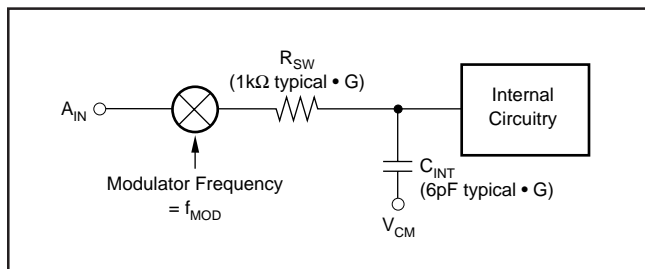

FIGURE 1. Analog Input Structure.
Figure 1 shows the basic input structure of the ADS1250. The analog input impedance is directly related to the sampling frequency of the input capacitor ( $f_{\text{MOD}}$ ), and the gain setting (G) of the device. The sampling frequency of the input capacitor is derived from the system clock (CLK). Therefore, a lower CLK rate decreases the sampling frequency, which results in a higher analog input impedance.